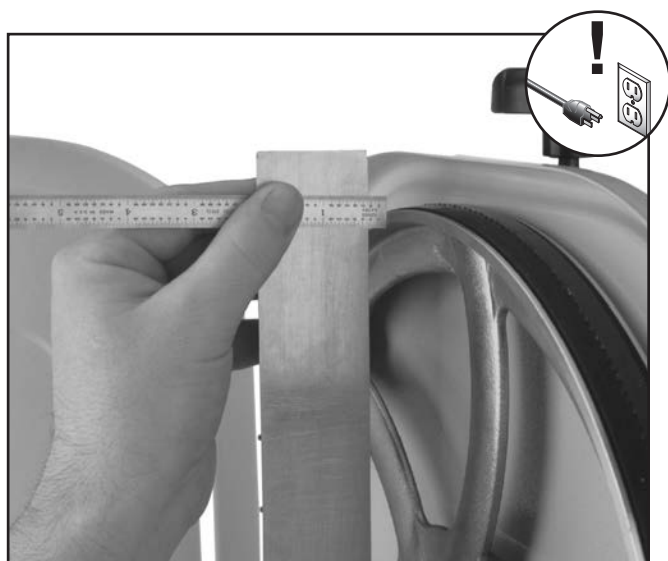

Figure 48. Measuring wheel difference.
1. Adjust the tracking knob so the top wheel is parallel with the bottom wheel. With the straightedge touching both points of the wheel that does not need to be adjusted, measure the distance away from the incorrect wheel with a fine ruler (see **Figure 48**). The distance measured with the ruler is the distance the wheel must be corrected.